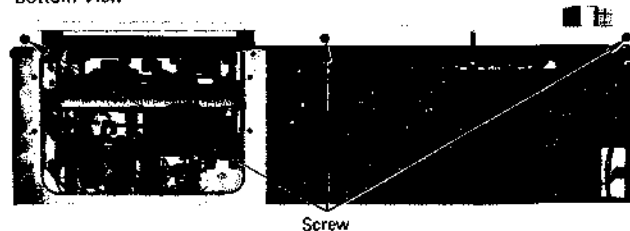

Fig. 3
- 3) Undo 3 screws ① shown in Fig. 3.
- 4) To remove the front panel, undo 3 screws ② shown in Fig. 3.